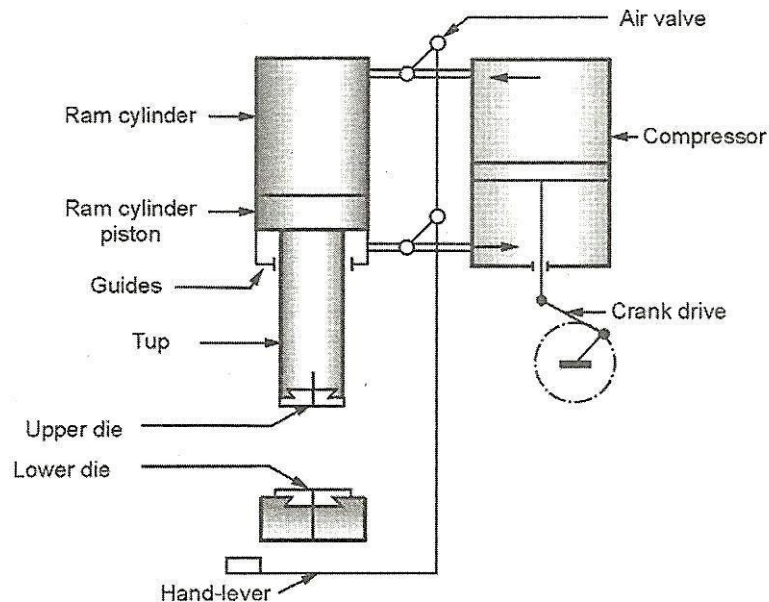

Fig. 3.16 : Pneumatic hammer
- Figure 3.16 shows a commonly used design of pneumatic hammers which consists of a compressor cylinder and ram cylinder.